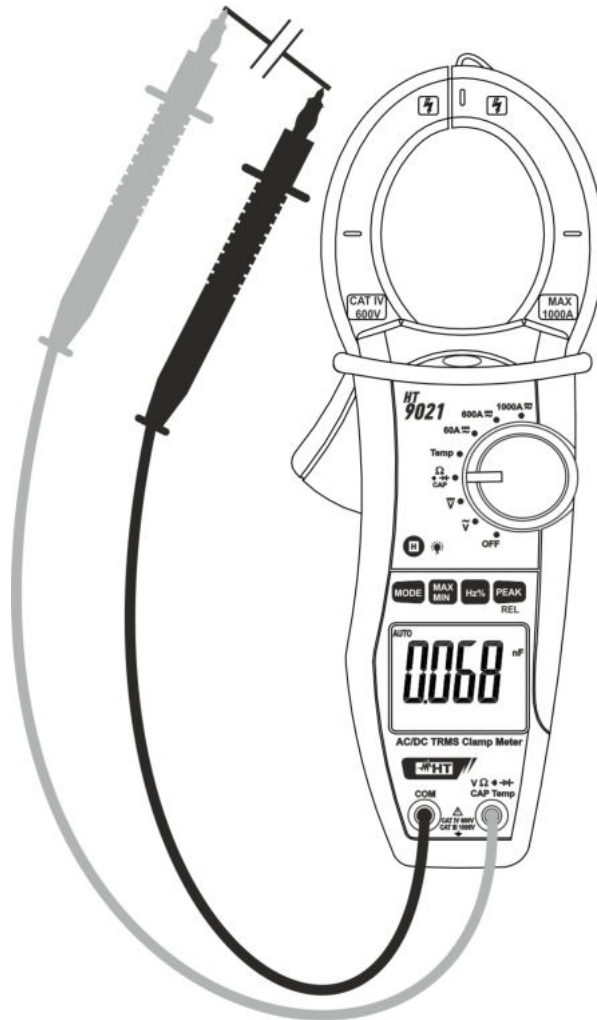

Fig. 7: Taking Capacitance measurement
3. Insert the red test lead plug into **VΩ CAP Temp** jack and the black test lead plug into **COM** jack (Fig. 7)